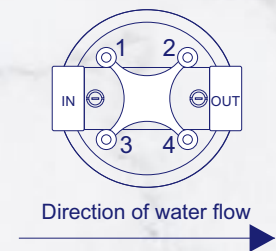

Fig. 2
- Install mounting bracket to filter housing head using four mounting screws in openings 1,2,3,4 (Fig. 2).